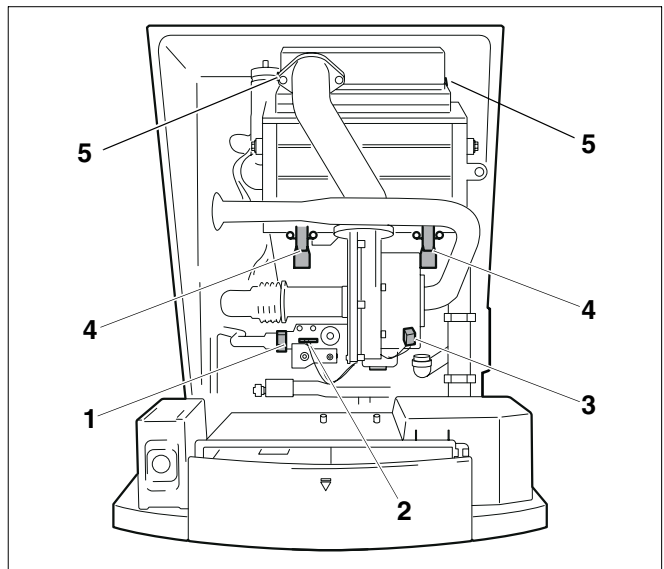
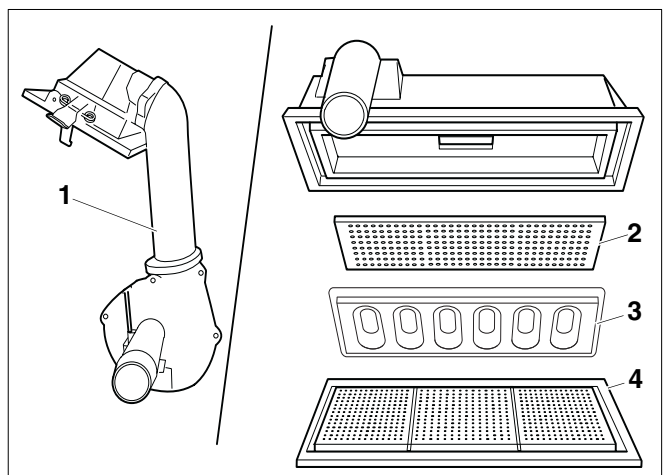

Fig. 38 Removing the connections
Fig. 39 Cleaning the burner cover, gas/air distributor plate, orifice plate and burner
- Loosen the threaded connection to the gas control valve (fig. 38, pos. 1) and pull the plug (fig. 38, pos. 2) from the gas valve terminal block.
- Pull the plug from the fan unit (fig. 38, pos. 3).
- Loosen both sets of retaining clips (fig. 38, pos. 4 and 5) of the burner cover and remove the burner cover with the fan unit and the gas burner fitting (fig. 39, pos. 1). Then remove the gas/air distributor plate (fig. 39, pos. 2), the orifice plate (fig. 39, pos. 3) and the burner (fig. 39, pos. 4).
- Loosen the retaining clips (fig. 38, pos. 5, page 46) on the condensate trap and remove the condensate trap.